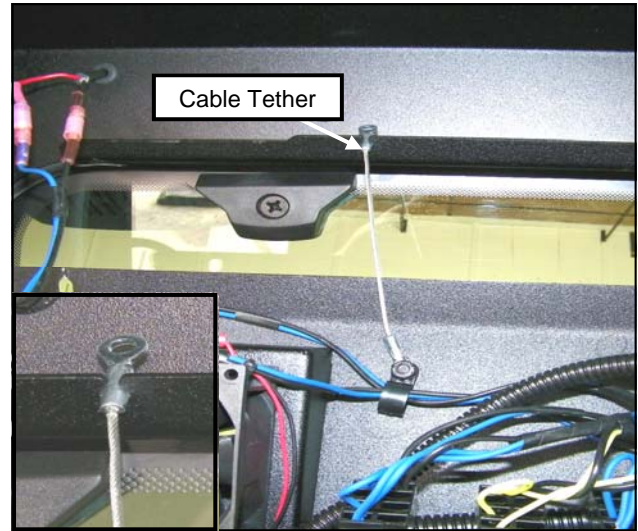

Fig. 2.1
- 2.1 Install the end of each Tether from the Console into the Windshield Support and allow the Console to hang. See figure 2.1.